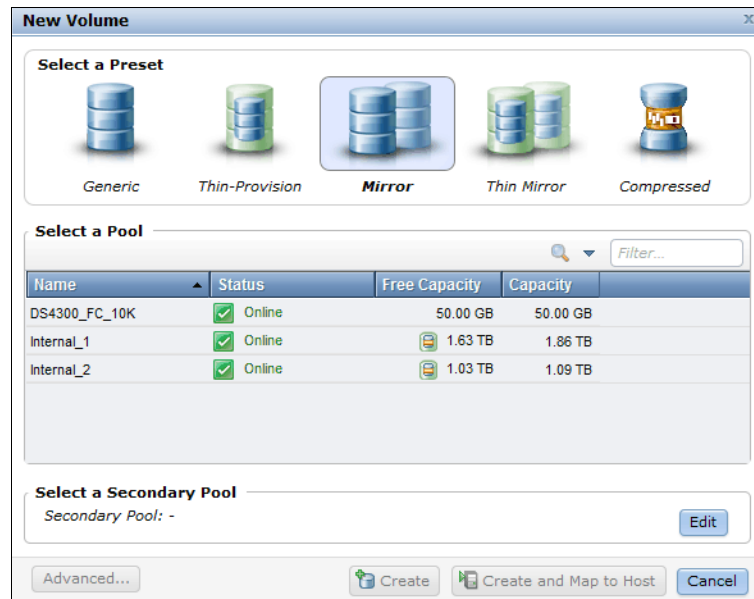

Figure 6-10 Create a mirrored volume - Select the primary pool
1. From the New Volume window, select **Mirror** (Figure 6-10).